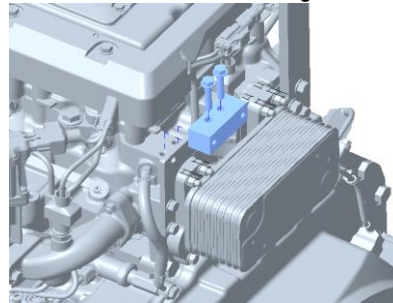

Figure 5
4. Install the ATD mount bracket (14) on the flywheel side using M8X40 (1) bolts as shown in the figure 5.